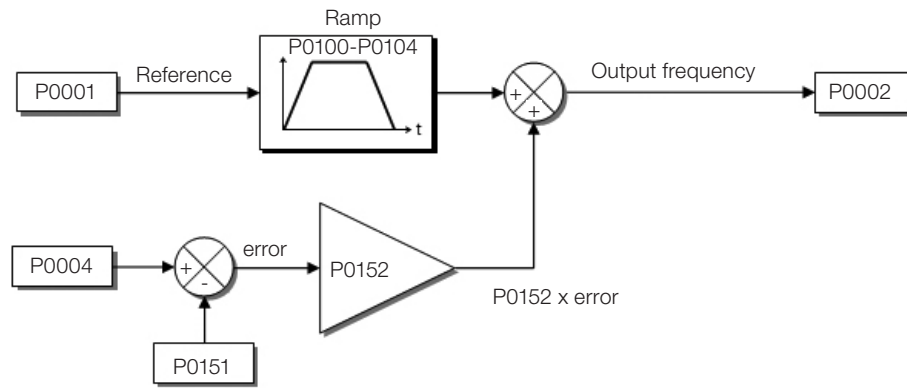
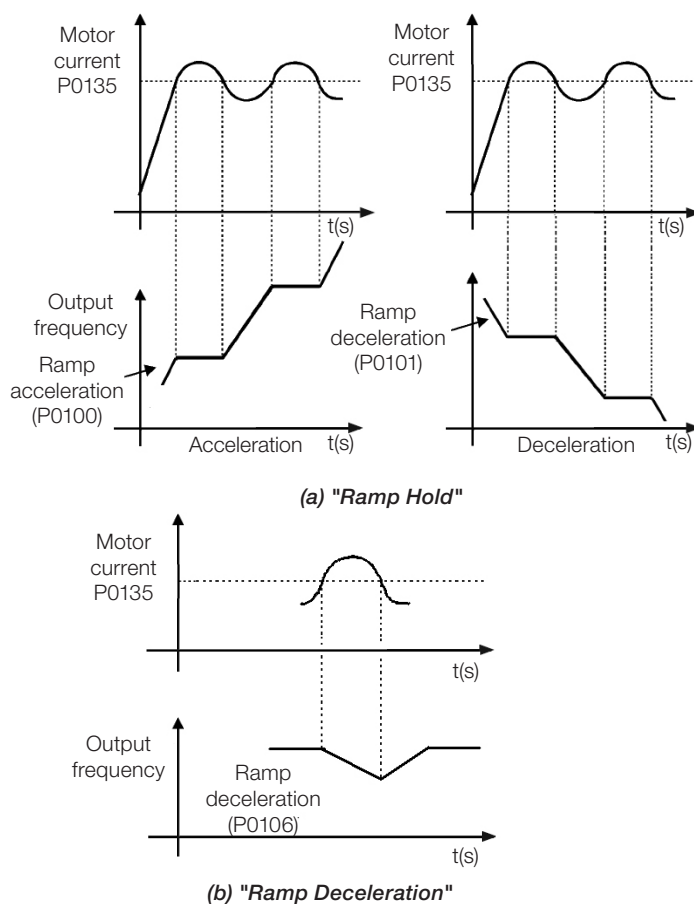

Figure 9.7: Block diagram of DC Link voltage limitation – Accelerate Ramp
Figure 9.9: (a) and (b) Actuation modes of Current Limitation via P0135
- Actuation: the DC Link voltage is measured (P0004) and compared to the value set in P0151; the difference between those signals (error) is multiplied by the proportional gain (P0152); the result is then added to the ramp output, as per Figure 9.7 on page 9-11 and Figure 9.9 on page 9-12.
- Actuation: if the motor current exceeds the value set in P0135 during acceleration or deceleration, the speed will not be incremented (acceleration) or decremented (deceleration). When the motor current reaches a value below P0135, the motor accelerates or decelerates again. Refer to Figure 9.9 on page 9-12.
- Actuation: if the motor current exceeds the value set in P0135, a null value is forced for the speed ramp input forcing the motor deceleration. When the motor current reaches a value below P0135, the motor accelerates again. Look at Figure 9.9 on page 9-12.
Current level to activate the current limitation for the Ramp Hold and Decelerate Ramp modes, as per Figure 9.9 on page 9-12, respectively.